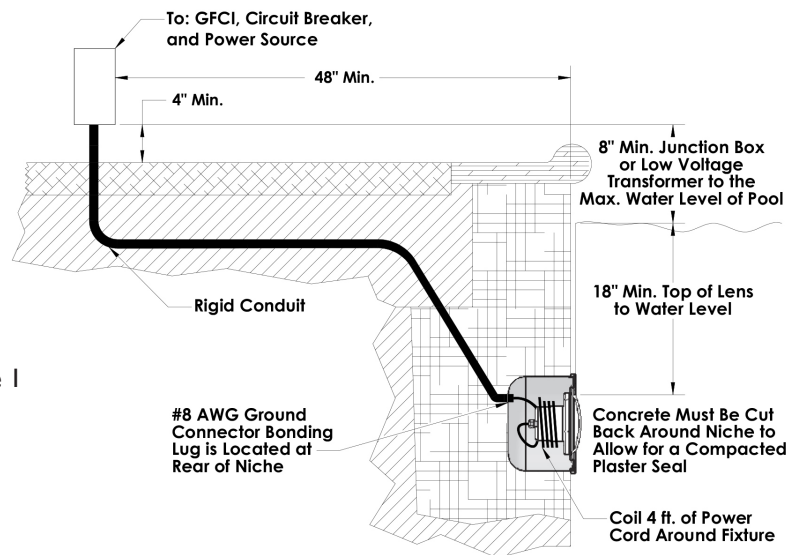

Figure 1
- A junction box or low voltage transformer is located at least 8 inches above the maximum pool water level and at least 48 inches from the pool edge; reference Figure 1.
- Proper wet, niche installation with the top edge of the underwater light's lens at least 18 inches below the surface of the water in the pool and not more than 20" in Canada; reference Figure 1.
- Proper electrical wet niche bonding and grounding using the #8 AWG ground connector at the rear of the niche; reference Figure 1.
1. Feed the fixture cord through the conduit to the junction box. Be sure to leave at of servicing once the pool is filled; reference Figure 1.
2. At the junction box, cut the cord. Be sure to leave at least six (6) inches of cord for making connections.
3. Carefully strip the outer cord jacket to expose six (6) inches of underlying three insulated wires.
4. Connect these three (3) wires to their corresponding junction box circuit wires and secure the junction box cover in place.
5. Using the stainless steel pilot screw provided, install the Halco ProLED® White LED light assembly into the niche, carefully tightening the pilot screw. (reference Figure 1)
- Proper wet niche installation with the top edge of the underwater light's lens at least 18 inches below the surface of the water in the pool and not more than 20" in Canada; reference Figure 1.
- Proper electrical wet niche bonding and grounding using the #8 AWG ground connector at the rear or the niche; reference Figure 1.
- The wet niche is properly electrically bonded and grounded via the No. 8 AWG ground connector located at the rear of the niche; see Figure 1.
7. Carefully strip the outer cord jacket from the new light cord to expose six (6) inches of the underlying three insulated wires.
8. Connect these three (3) wires to their corresponding junction box circuit wires and secure the junction box cover in place.
9. Be sure to leave at least four (4) feet of cord at base of the fixture to coil around the light to ensure ease of servicing; reference Figure 1.
11. Using the stainless steel pilot screw provided, install the Halco ProLED® White LED light assembly into the niche, carefully tightening the pilot screw. (reference Figure 1)